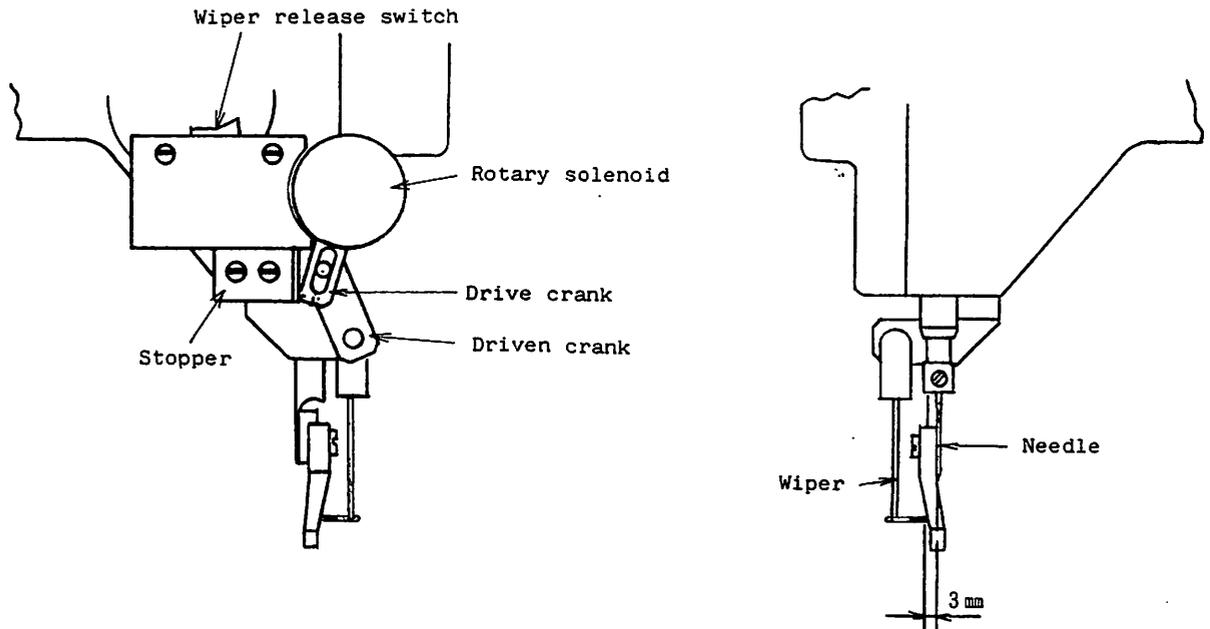

Fig. 10.23
- (1) When the wiper is not used, set the wiper release switch shown in Fig. 10.23 to "OFF".
- (4) Adjust position of the driven crank so that the wiper top is positioned as shown in Fig. 10.23 when the wiper drive crank is brought into contact with the stopper.
- (5) Rotate the rotary solenoid by hand (push the drive crank) to make sure it can move smoothly.